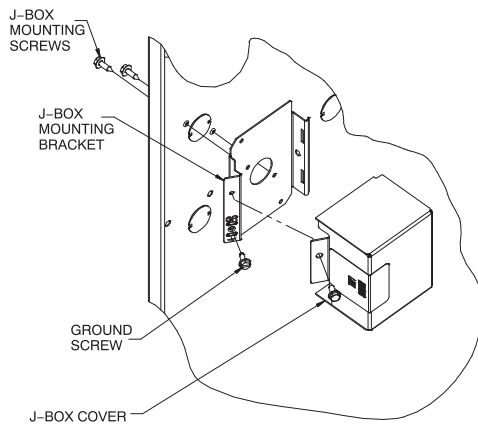

Fig. 31 - Installing J-Box (When Used)
The J-Box cover, mounting bracket and screws are shipped in the loose parts bag included with the furnace. The J-Box can be mounted on the left or right side of the casing, as viewed from the upflow position. See Fig. 31.
Align the J-Box mounting bracket against the inside of the casing and secure the mounting bracket with the screws. See Fig. 31.
6. Connect field ground wire and factory ground wire to green ground screw on J-Box mounting bracket as shown in Fig. 31.
1. Install J-Box mounting bracket to inside of furnace casing. See Fig. 31.
5. Connect field ground wire and factory ground wire to green ground screw on J-Box mounting bracket as shown in Fig. 31.
7. Attach furnace J-Box cover to mounting bracket with screws supplied in loose parts bag. Do not pinch wires between cover and bracket. See Fig. 31.
4. Connect field ground wire and factory ground wire to green ground screw on J-Box mounting bracket as shown in Fig. 31.